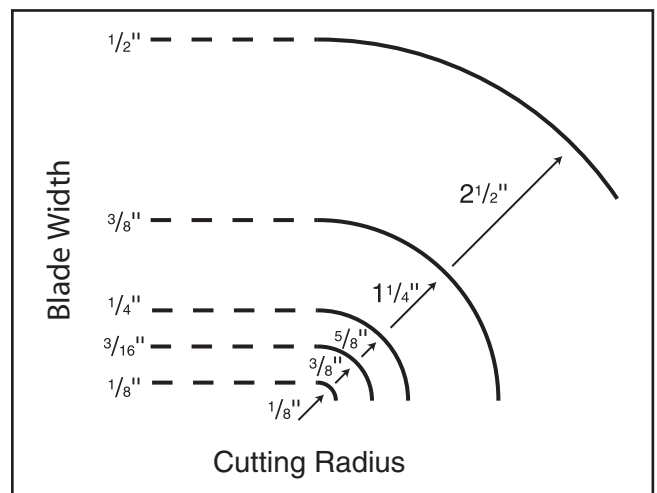

Figure 34. Blade width radii.
- Curve Cutting**—Use the chart in **Figure 34** to determine the correct blade for curve cutting. Determine the smallest radius curve that will be cut on your workpiece and use the corresponding blade width.